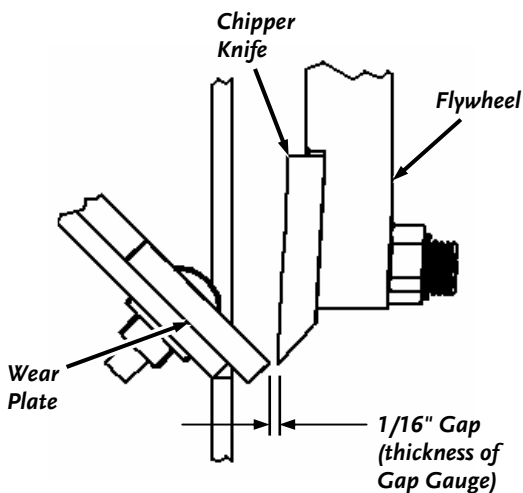

Figure 39
**NOTE:** See **Figure 39** for a more detailed look at the relationship of the Knife to Wear Plate.